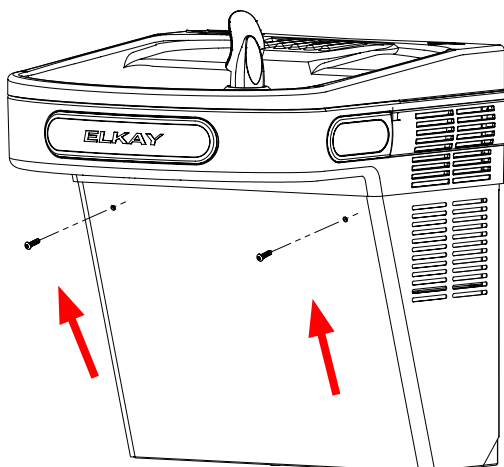

Fig. 2
1. Remove the two security screws (size T25) from the front panel. (see Fig. 2)
2. Refer Fig. 2 to 6, Pg. 8 for wrapper removing instructions.